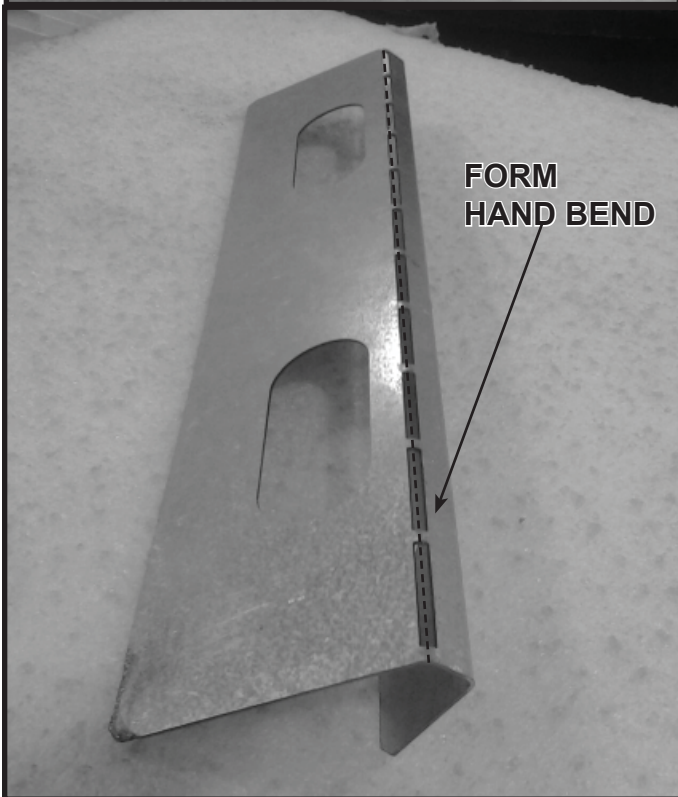

Figure 14. Form Transition Glass Panel Bracket
- Install glass transition panel bracket on left and right sides of appliance opening using two self-tapping screws. See Figures 14, 15 and 16 for details.